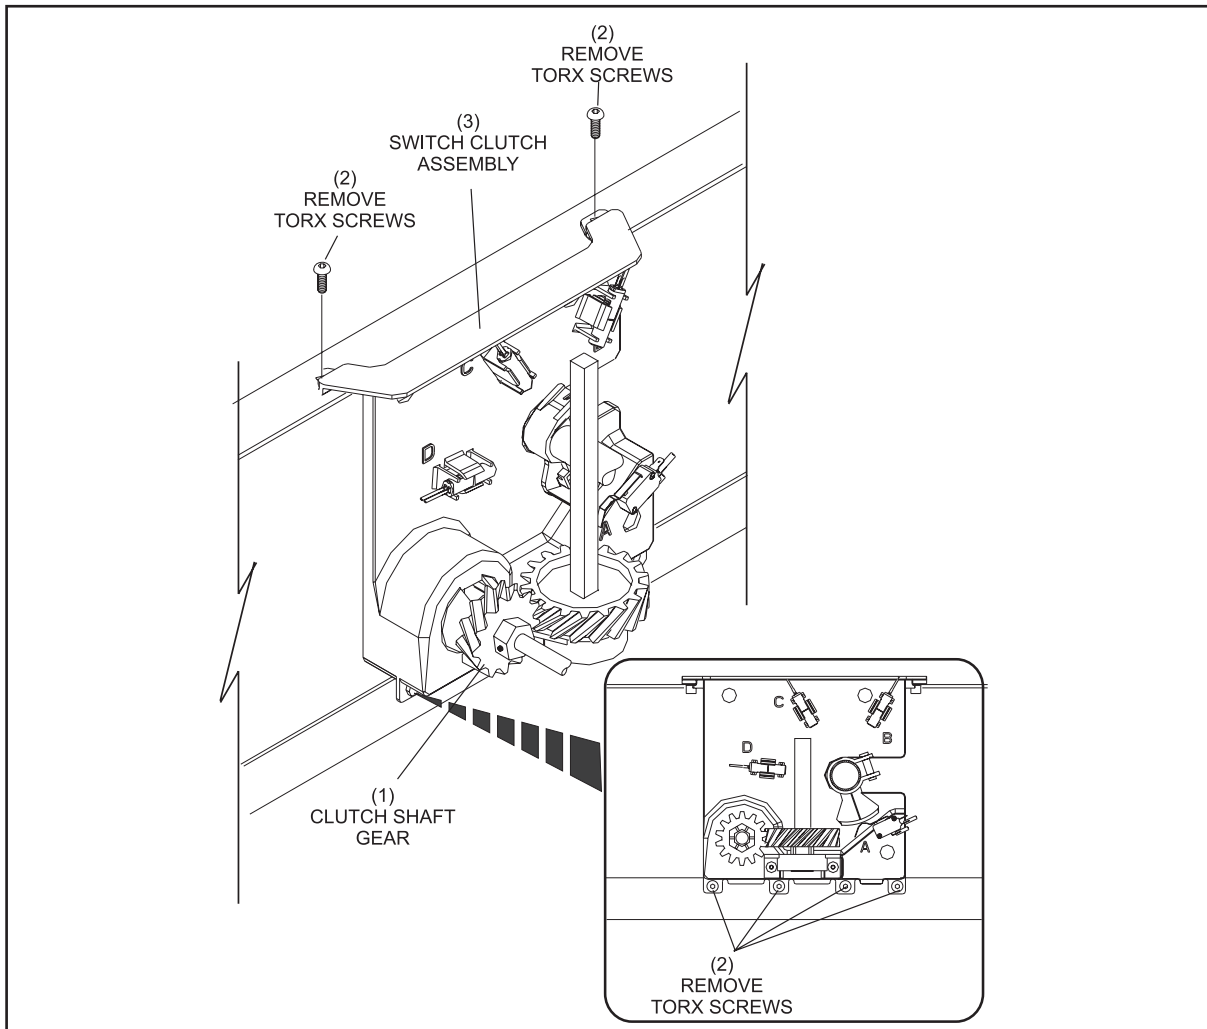

Figure 8-9. Remove Hardware.
1. Remove the Torx screws which hold the switch cluster assembly to the pinsetter frame. Refer to Figure 8-9.